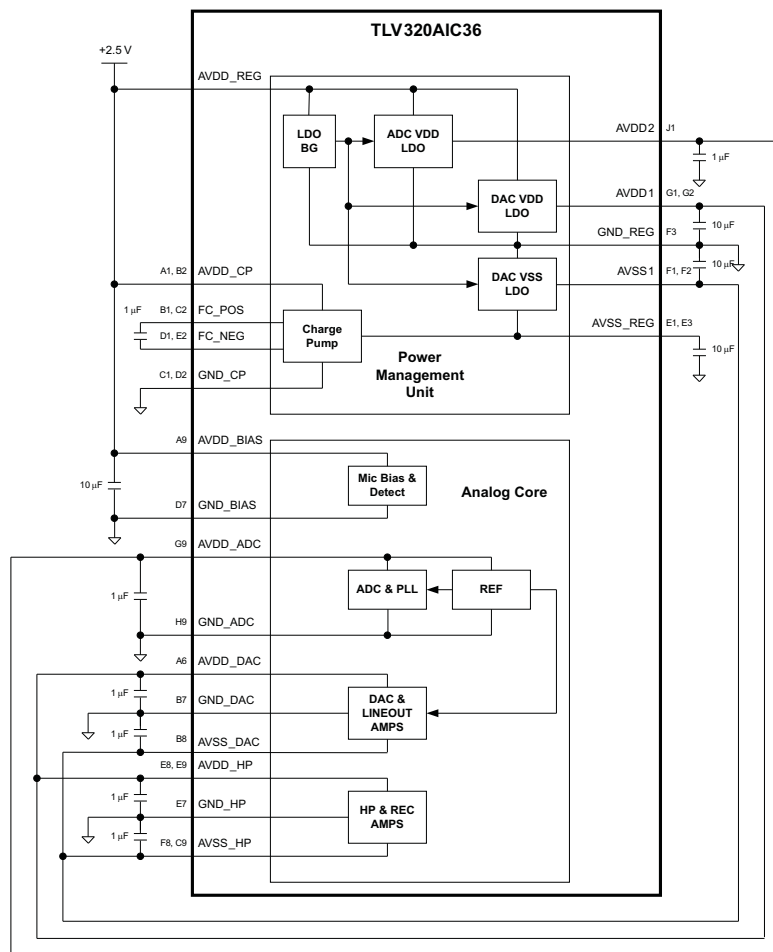

Figure 5-48. Recommended Analog Power Supply Connections
The allowed voltage supply ranges for the TLV320AIC36 analog blocks are 1.4 V to 1.8 V and –1.4 V to –1.8V. To ease system-level design, a charge pump and three low-dropout regulators (LDOs) are integrated to generate the appropriate analog voltage supplies from a single 2.1 to 2.8 V supply input. One positive LDO is used to generate a nominal +1.8 V supply for the input PGA and ADC section and another positive LDO generates a nominal +1.65 V for the DAC and audio amplifier sections. A negative charge pump generates a negative voltage which is then regulated to a nominal -1.65 V using a negative LDO. Figure 5-48 shows suggested hookup from the PMU to the analog core.
The first low power (LP) mode is capable of reducing power dissipation to 14mW for DAC to headphone playback. Max headphone output power is 20mW per channel. Referring to Figure 5-48, the changes are:
Referring to Figure 5-48, the changes are